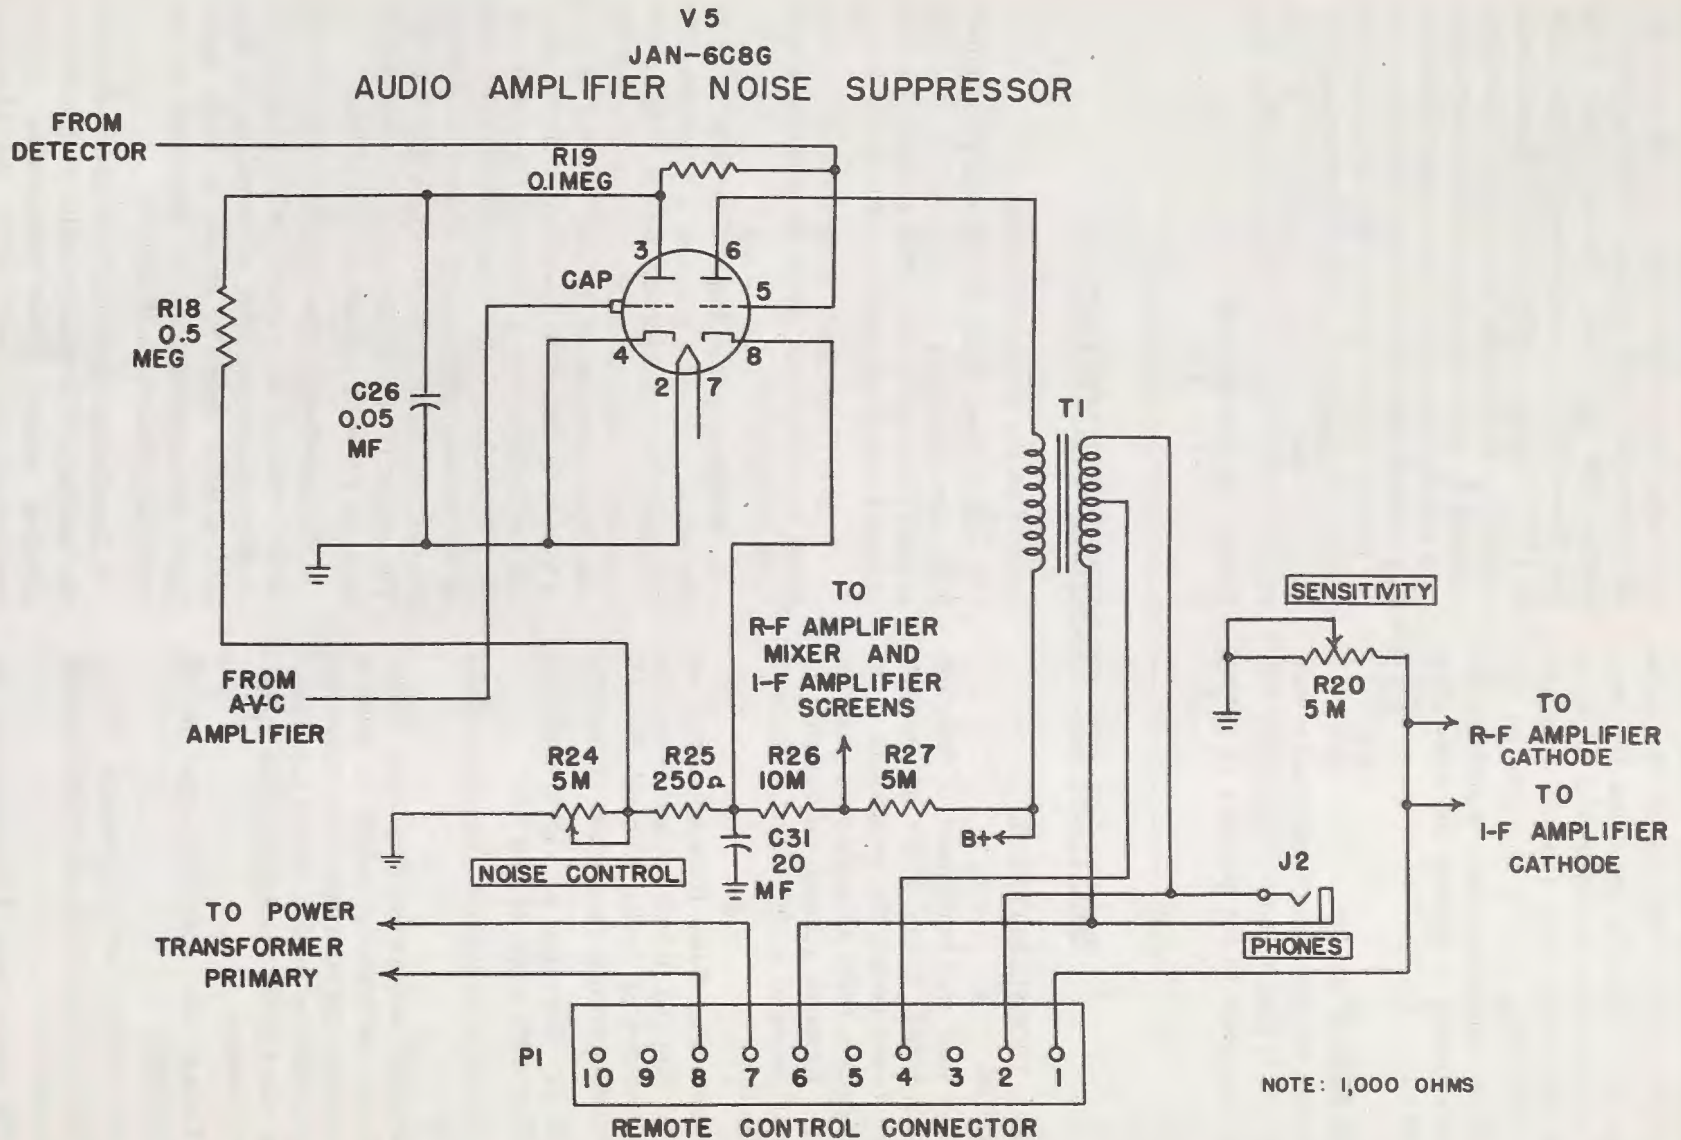

Figure 30 . Radio receiver type F3, functional diagram of audio-amplifier noise suppressor stage.
73. AUDIO-AMPLIFIER AND NOISE SUPPRESSOR STAGE V5 (fig. 30).